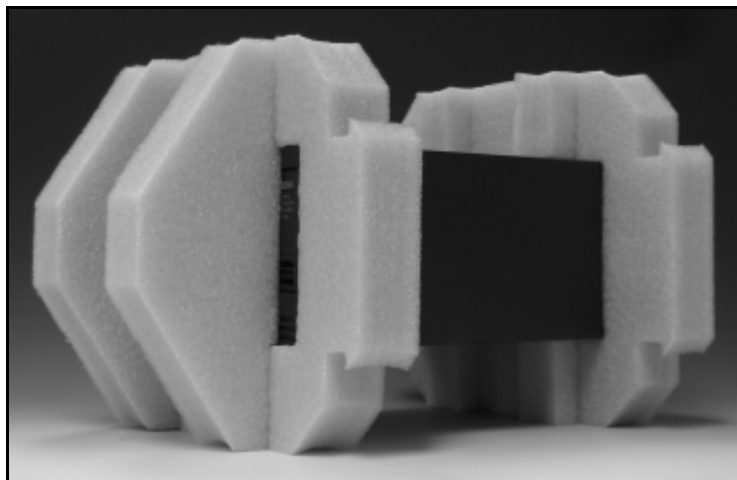

Figure 2-2 *The DASTape in its foam supports.*
2. Set the protected DASTape on a clean, stable work surface (Figure 2-2).